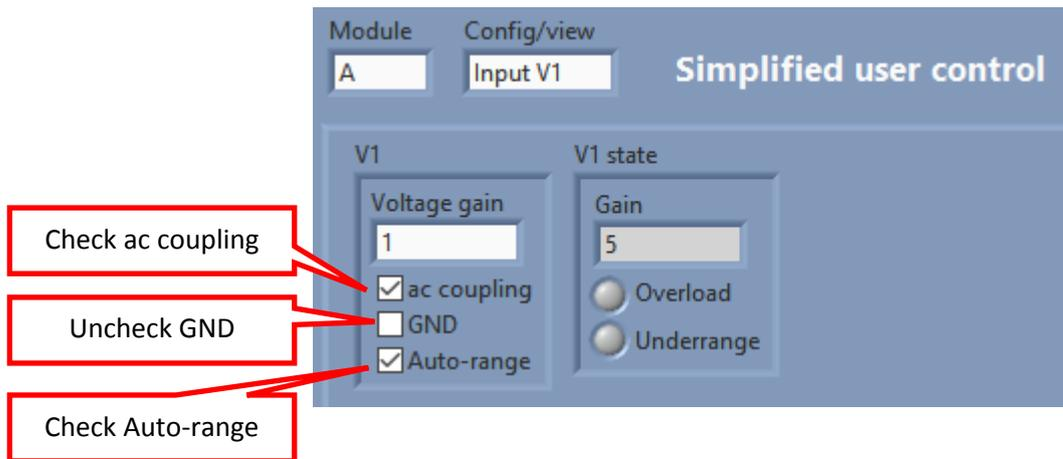

Figure 9, MCL Software Input V1 Control Display
- 8) Use the **Config/View** control to select the **Input V1** display (figure 9), and check the **AC Coupling** control, uncheck the **GND** controls, and check the **Auto-range** control.